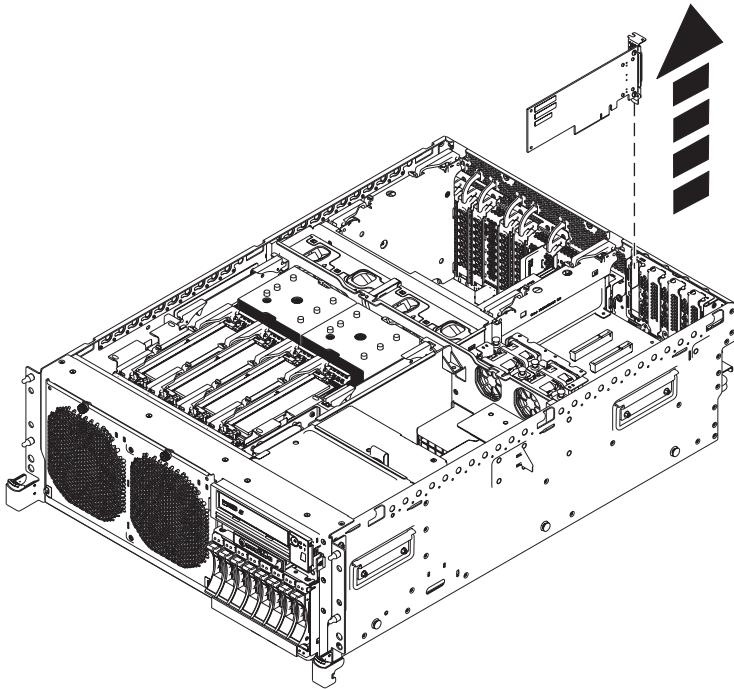
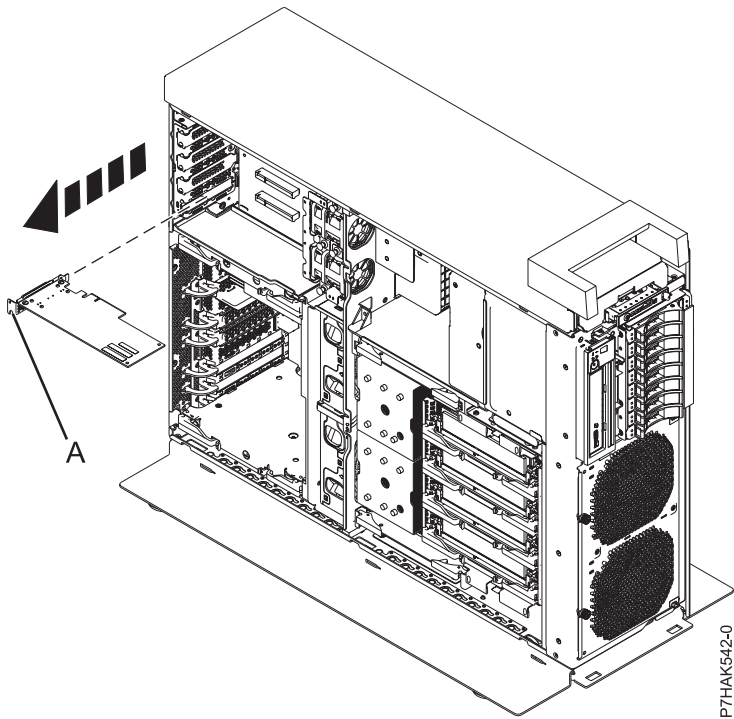

Figure 9. Removing a PCI adapter from an expansion riser in a rack-mounted system
Figure 10. Removing a PCI adapter from an expansion riser in a stand-alone system
13. If your system has an expansion riser, you can pull the low profile PCI adapter from its slot by its tailstock (**A**), as shown in Figure 9 on page 13 and Figure 10 on page 13.